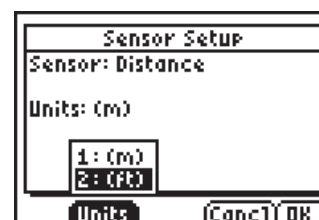

Figure 3
- From the Units menu, select **2:(ft)** by pressing $\boxed{2}$ or scroll down until the **2** is highlighted and press $\boxed{\text{ENTER}}$. Then select **OK**. **See Figure 3.**